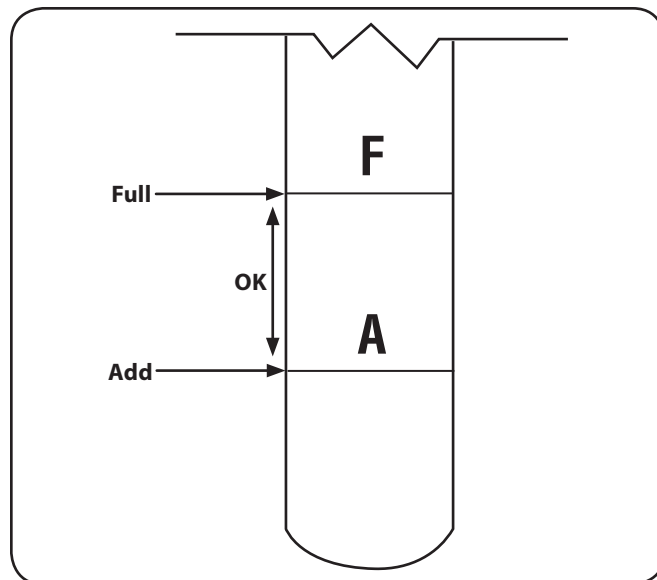

Figure 6-2
1. Remove the dipstick and check the level. See Fig. 6-2.
7. Remove the oil fill plug/dipstick from the oil fill port and SLOWLY pour oil into the oil fill port. Fill the transmission case until the oil level reaches the "FULL" mark on the dipstick. Refer to Fig. 6-2.